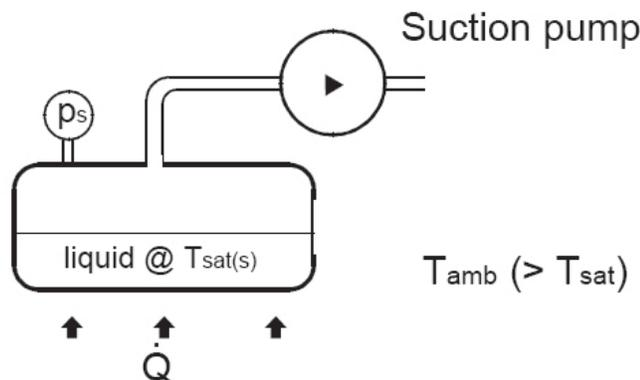

Figure 4: Refrigeration cycle...
rate at which vapour is formed (determined by Q) equals the rate at which it is removed. Therefore, both the heat transfer rate into the liquid (Q) and the vapour removal rate (suction pump capacity) determines the pressure and hence $T_{sat}(s)$ (Figure 4). This is governed by the following set of equations.